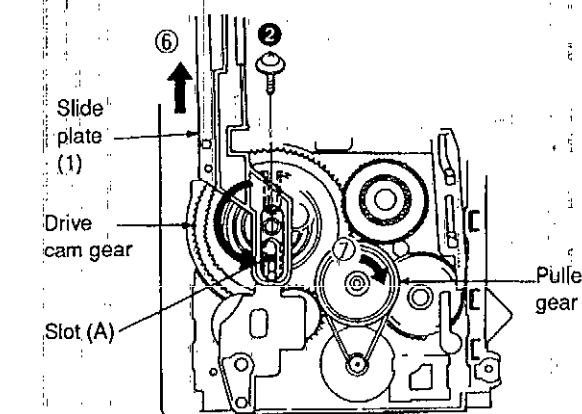
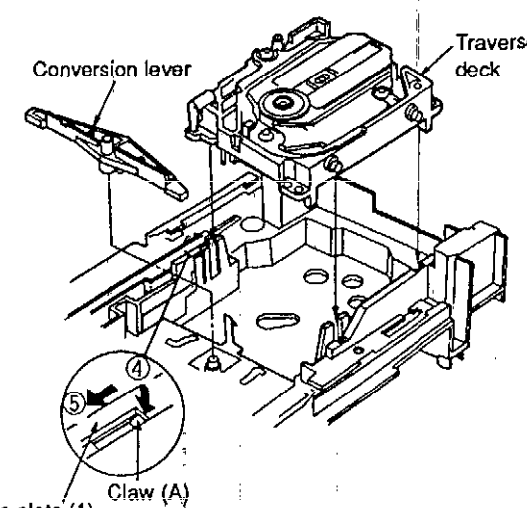

Fig. 10
Fig. 9
16. Push slide plate (1) in the direction of arrow ⑥, so that the catch (A) in Fig. 9 engages with slide plate (1).
17. Secure slide plate (1) with a screw ②.
18. Rotate the pulley gear in the direction of arrow ⑦ so that slot (A) of the drive cam gear is in the position shown in Fig. 10.
14. Press catch (A) in the direction of arrow ④ and then push slide (1) of the loading unit in the direction of arrow ⑤. (See Fig. 9.)
15. Install the traverse deck and the conversion lever. (See Fig. 9.)